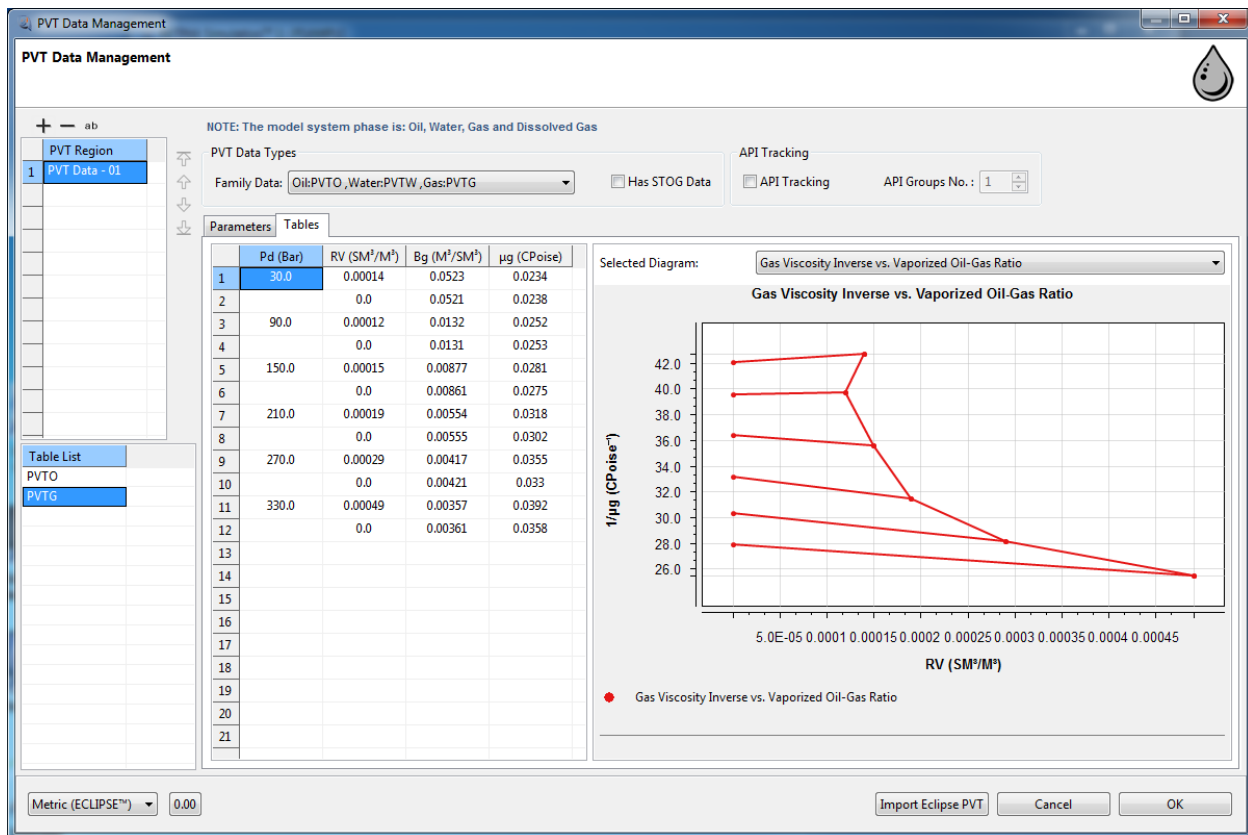

Figure 97 A Typical PVTG Table and Curves
the highest P_g in each table. The additional data takes the form of three columns which continue from items 2, 3 and 4 above. In such cases, the values of R_v must decrease down the column (starting from the value for saturated gas); There must be the same number of entries in each column. If no additional data is supplied for a particular value of P_g , it locates the next higher value of P_g for which under saturated PVT data is available, and takes a scaled copy of the formation volume factor and viscosity curves supplied there. The typical PVTG table and curves have been displayed in the Figure 97.
Always PVTG tables contain additional data that defines the properties of under saturated gas at the specified value of gas phase pressure. This data must be specified for the highest P_g in each table. The additional data takes the form of three columns which continue from items 2, 3 and 4 above. In such cases, the values of R_v must decrease down the column (starting from the value for saturated gas); There must be the same number of entries in each column. If no additional data is supplied for a particular value of P_g , it locates the next higher value of P_g for which under saturated PVT data is available, and takes a scaled copy of the formation volume factor and viscosity curves supplied there. The typical PVTG table and curves have been displayed in the Figure 97.